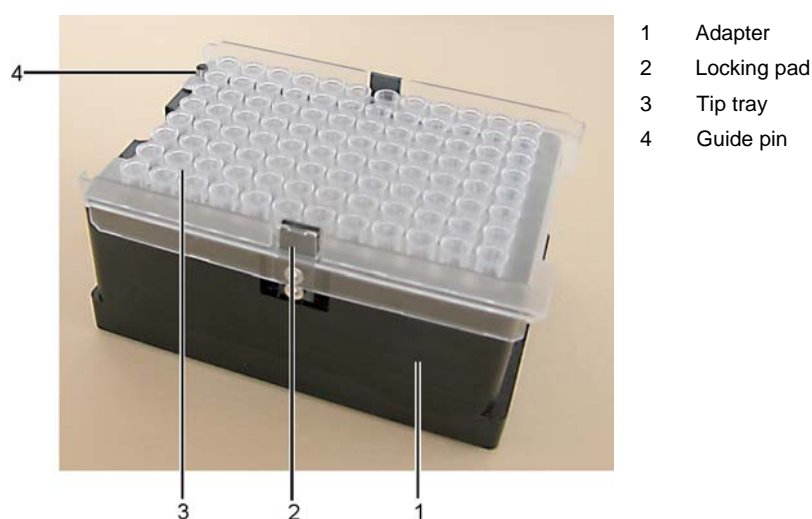

Fig. 3 Adapter with tip tray
- Insert an adapter with tip tray so that the guide pin (4, Fig. 3) is located on the left-hand side.